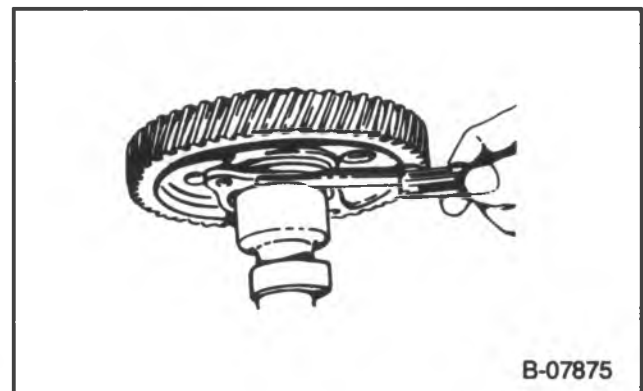

Figure 29 — Measuring Camshaft To Thrust Plate Clearance
Measure (Figure 29)
- Thrust plate to camshaft clearance using a feeler gage (figure 29). The proper clearance is 0.003-0.008-inch. If the clearance is excessive, replace the thrust plate. If the clearance is insufficient, replace the spacer ring. Refer to the proper Unit Repair Manual.